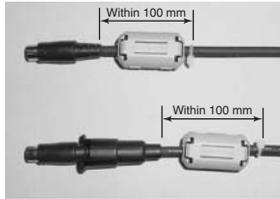

Fig.2-3 Location of Split Core Installation
3. As shown in Fig. 2-3, tie up the cable with the accompanying stopper band. Keep the distance between the plug and the core below 100 mm.